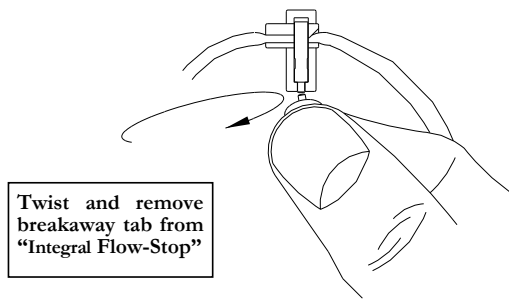

Figure 1.5 Moog Curlin Infusion Administration set "Integral Flow-Stop" with breakaway tab
- 1 To gravity prime the administration set, twist and remove the breakaway tab from the "Integral Flow-Stop", then spike the IV bag. Squeeze the "Integral Flow-Stop" between your thumb and forefinger to allow fluid to flow through the tubing until all air is removed from the IV bag and administration set. (See figures 1.5 and 1.6.) Release the "Integral Flow-Stop" to automatically clamp the tubing. **To correctly prime a filtered set, hold the filter in a vertical position with the flow downwards allowing the filter to completely fill with fluid.**